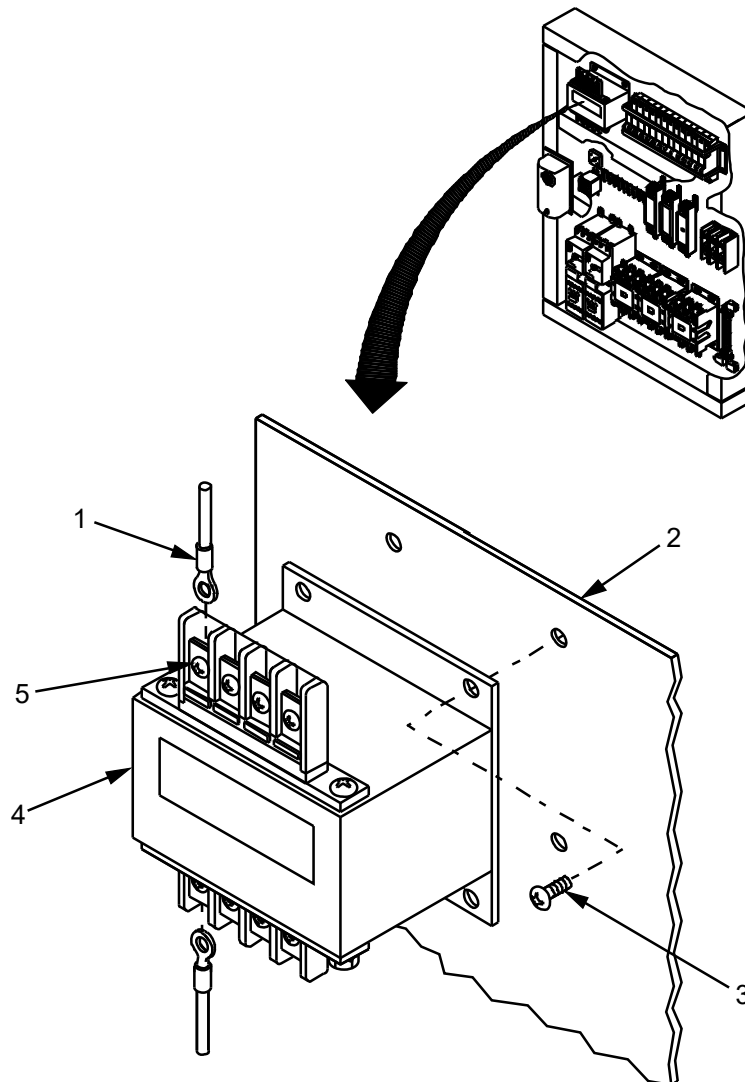

Figure 1. Transformer Replace.
3. Verify that all electrical wires (Figure 1, Item 1) connected to transformer (Figure 1, Item 4) are properly identified.
4. Remove and retain terminal screws (Figure 1, Item 5) securing electrical wires (Figure 1, Item 1) to transformer (Figure 1, Item 4). Remove electrical wires (Figure 1, Item 1) away from transformer (Figure 1, Item 4).
5. Remove four screws (Figure 1, Item 3) that secure transformer (Figure 1, Item 4) to control panel (Figure 1, Item 2).
6. Remove transformer (Figure 1, Item 4) and set aside.
1. Install transformer (Figure 1, Item 4) onto control panel (Figure 1, Item 2) and secure using four screws (Figure 1, Item 3).
2. Inspect all electrical wires (Figure 1, Item 1) being connected. Ensure no physical damage is present. If necessary, repair or replace.
3. Remove terminal screws (Figure 1, Item 5) from transformer (Figure 1, Item 4). Connect all electrical wires (Figure 1, Item 1) and install terminal screws (Figure 1, Item 5).